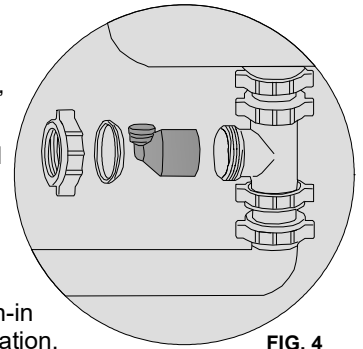

FIG. 4
5. Insert new drain line adapter with push-in connector (provided) into side outlet of tee, and rotate towards incoming 3/8" rejected water drain tube. Make sure that adapter is firmly seated in bottom of socket, then tightly secure with beveled S.J. washer and wing nut (provided). (See Fig. 4)